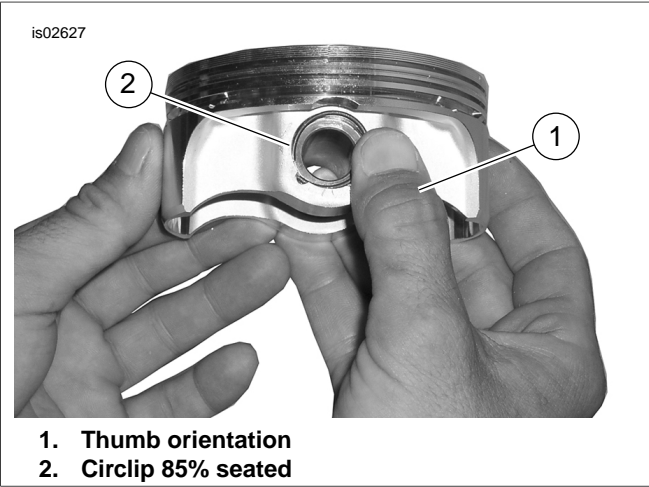

Figure 4. Install Circlip
9. See Figure 4. Position your thumb (1) as shown, and press firmly until approximately 85% of the circlip (2) is seated in the groove.